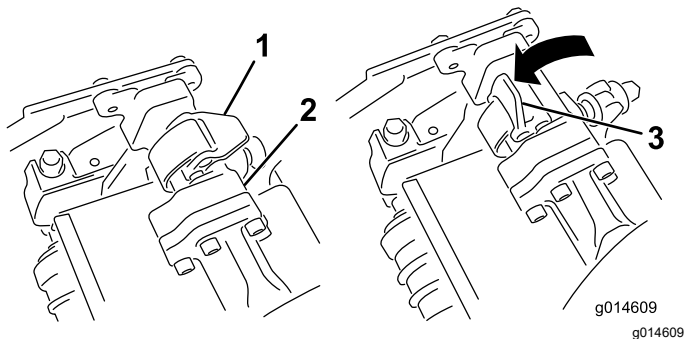
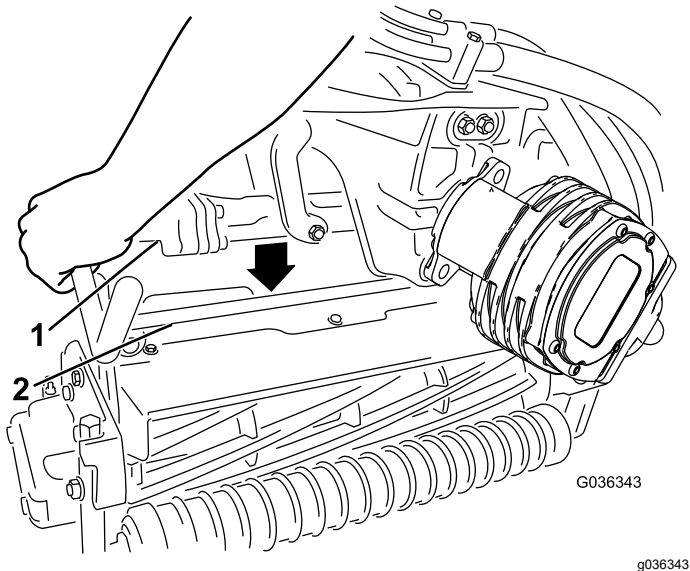

Figure 62
Figure 63
4. Open the latches on the suspension-arm bar (Figure 62) and push the suspension arm down so that the bar fits over both pitch arms on the cutting unit and ensure that the latches go underneath the cutting-unit crossbar (Figure 63).
5. Close the latches down and around the cutting-unit bar and lock them in place (Figure 62).
6. Open the latches on the suspension-arm bar of the cutting unit you are removing (Figure 62).